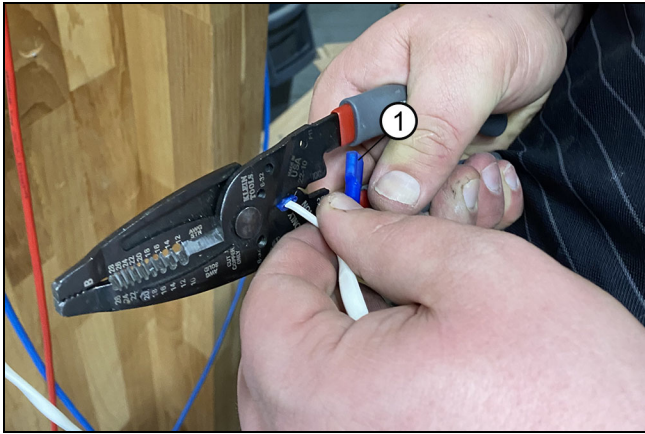

Figure 21
6. Attach the blue female cable crimp connectors to the 14-2 cable from the control box. See Figure 21.